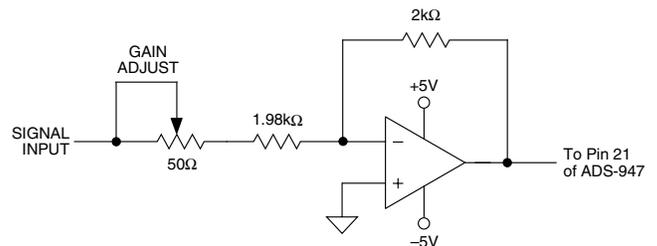

Figure 2. Optional ADS-947 Gain Adjust Calibration Circuit
2. The ADS-947 achieves its specified accuracies without the need for external calibration. If required, the device's small initial offset and gain errors can be reduced to zero using the adjustment circuitry shown in Figures 2 and 3.
Any offset and/or gain calibration procedures should not be implemented until devices are fully warmed up. To avoid interaction, offset must be adjusted before gain. The ranges of adjustment for the circuits in Figures 2 and 3 are guaranteed to compensate for the ADS-947's initial accuracy errors and may not be able to compensate for additional system errors.